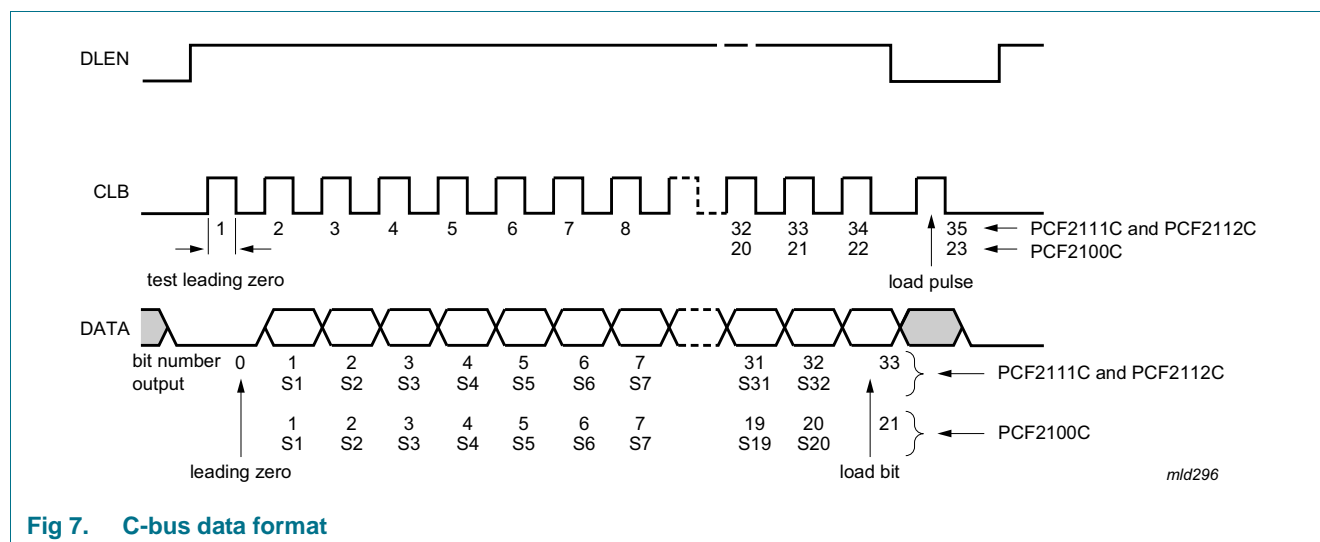

Fig 7. C-bus data format
An LCD segment or LED output is activated when the corresponding DATA bit is HIGH; see Figure 7.
- (1) Load pulse 23 for PCF2100C; see Figure 7.
(2) Load pulse 35 for PCF2111C and PCF2112C; see Figure 7.